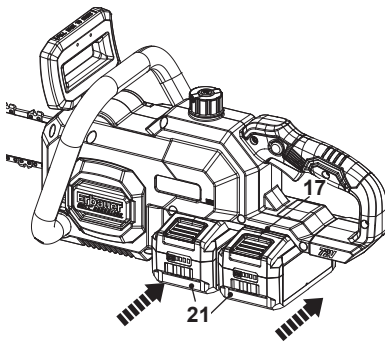

Fig. 13
1. Align the battery pack (21) with the sliding slots of the battery docking port (17) and slide the battery pack (21) in to attach it. Ensure it clicks in place (Fig. 13). Repeat this step to attach another battery pack (21).